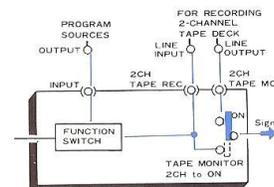

Fig. 21
- 2-channel Tape Recording:** The program source selected by the FUNCTION switch appears at the 2CH TAPE REC terminals on the rear panel and is equal to the input signal(Fig. 21).